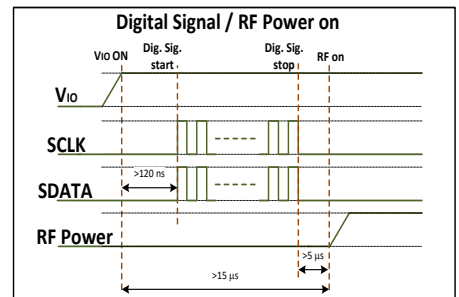

Figure 2 Digital Signal / RF Power-On Detail
2. VIO must be applied for a minimum of 120 ns before sending SDATA/SCLK to ensure correct data transmission. (see fig 2)
3. VIO must be applied for a minimum of 15 μ s before applying RF power. (see figure 2)
4. Wait a minimum of 5 μ s after RFFE bus is idle to apply an RF signal. (see figure 2)